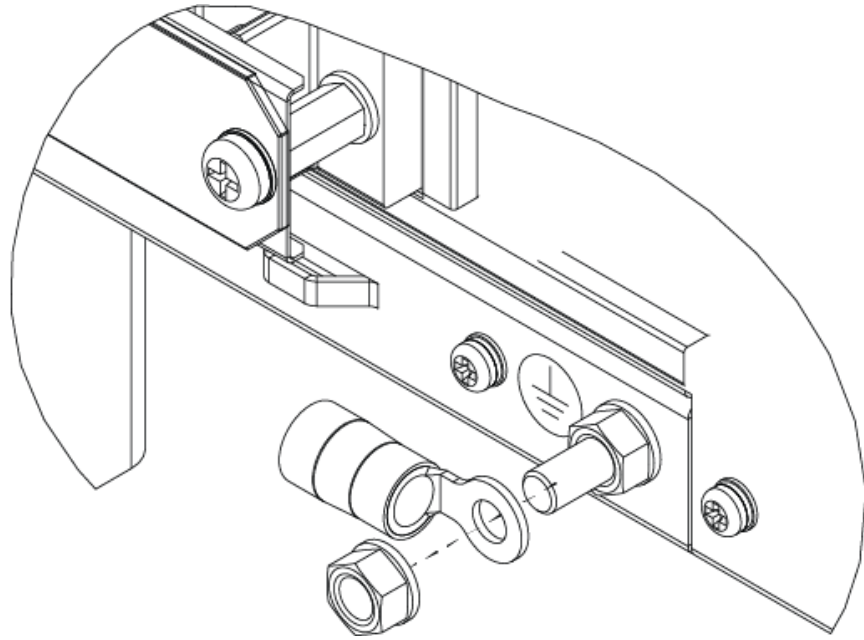

Figure 5. Primary Grounding Post Exploded View
1. Using a 10 awg grounding cable (green with yellow stripe), connect the chassis grounding stud to office primary ground using KEPS nuts. Connect the wire to the grounding stud using a double crimp terminal (PANDUIT PMNF6-4R or equivalent). Refer to Figure 5
2. Since the signal and primary office grounds are to be combined, installation is complete. Refer to Figure 5.